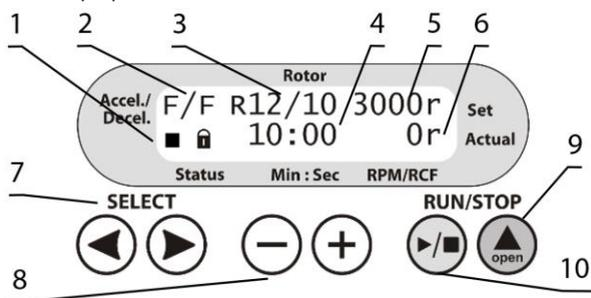

Figure 3. LMC-56 control panel.
- Check the power cable for any signs of damage. Connect the power cable to a properly grounded mains socket. Set the power switch on the unit to position **I** (on). Press the **▲ Open** key (fig. 3/9) and lift the lid by hand.
- Acceleration and deceleration modes (fig. 3/2);
- Set rotor speed in RPM or RCF (revolutions per minute and Relative Centrifugal Force, respectively, fig. 3/6);
- Status icons of rotor, ■ stopped or ▶ running (fig. 3/1, first symbol);
- Status icons of lid, ■ closed or ◻ open (fig. 3/1, second symbol);
- Set time of centrifugation, in minutes and seconds (fig. 3/4);
- Actual rotor speed, in RPM or RCF (fig. 3/6).
5.4. Press the ▲ **Open** key (fig. 3/9) and lift the lid by hand. Check the rotor, buckets for any signs of wear or corrosion, and replace if necessary. Insert **EVEN** number of tubes/microtest plates in rotor one opposite another. The loading in the opposite tubes must be equal.
5.5. **Setting parameters.** Use the **SELECT** ◀ and ▶ keys (fig. 3/7) to choose a parameter and the – and + keys (fig. 3/8) to modify it. Selected parameter will be blinking. Program automatically saves any changes made after no keys are pressed for 2 seconds.
5.5.1. Acceleration modes (fig. 3/2, first letter). Three modes of acceleration are available, slow (shortened to **S**), normal (**N**) and fast (**F**).
5.5.2. Deceleration modes (fig. 3/2, second letter). Four modes of deceleration are available, free brake (**0**), slow (**S**), normal (**N**) and fast (**F**).
5.5.3. Installed rotor (fig. 3/3). Combinations of rotors, adapters and their maximum allowed speed is listed below in the table below:
5.5.4. Rotation parameters (fig. 3/5). Rotor speed can be set in RPM and in RCF, denoted after numeric value by **r** and **g**, accordingly. Values convert after changing units. RCF depends on the installed rotor, as shown in Table 1.
5.5.5. Time setting (fig. 3/4). Select duration of centrifugation in minutes, step 1 minute. If the duration is set to zero minutes, centrifugation must be stopped manually.
5.6. Close the lid carefully and smoothly until a clicking sound is heard. Icon  appears on the display (fig. 3/1).
5.7. Press the **RUN/STOP** ▶/■ key (fig. 3/10) to start centrifugation. Icon ▶ (fig. 3/1) and actual speed (fig. 3/6) are shown in the lower line of the display. The timer (fig. 3/4) starts the countdown after set speed is achieved.